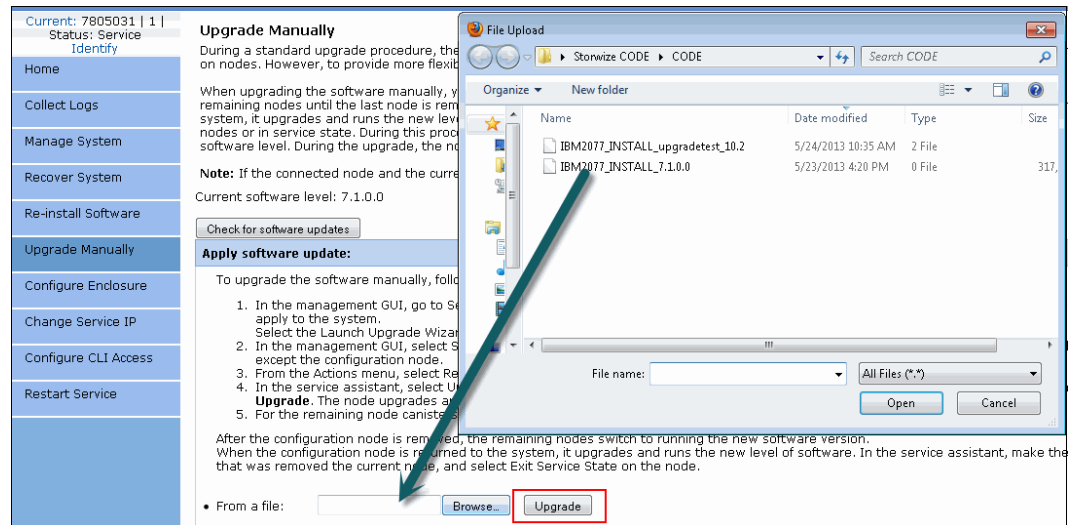

Figure 12-42 Select machine code file for upgrade
4. In the Service Assistant panel, select **Upgrade Manually** and select the machine code version that you want to upgrade on selected node, as shown in Figure 12-42.